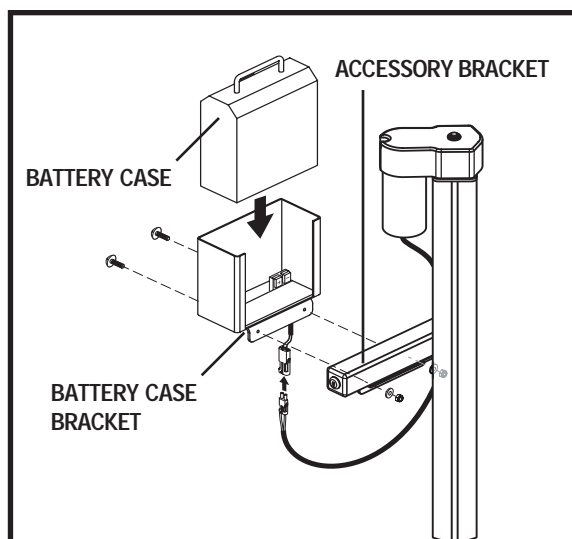

Figure 7. Onboard Battery Installation
1. Align the mounting holes in the battery case bracket with those in the accessory bracket located under the key switch tube. See figure 7.
2. Secure the battery case to the accessory bracket with the supplied hardware. See figure 7.
4. Plug the battery cord on the bottom of the battery case into the mating connector running from the motor. See figure 7.